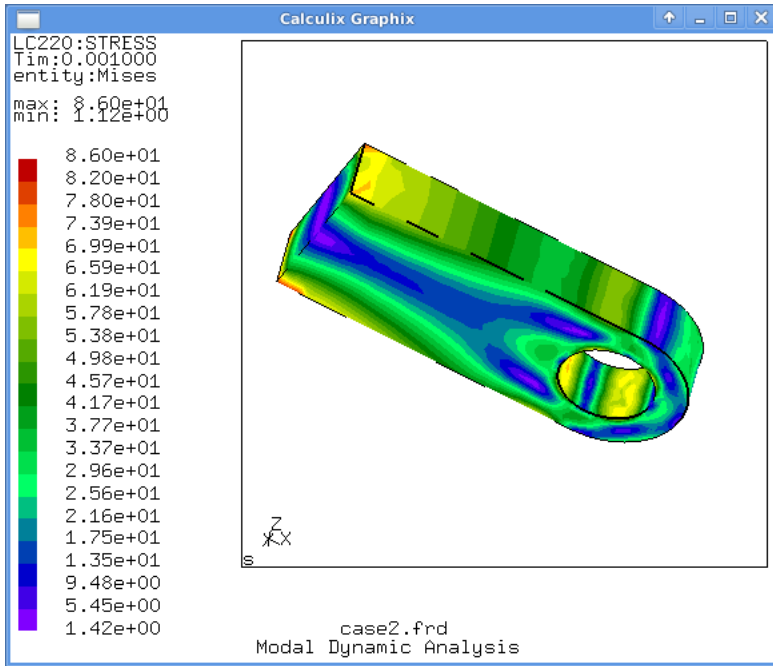

Figure 5.8:
Similarly we can plot the Mises Stress (entity 7) from the last (220) data set as shown in Figure 5.8. Type: